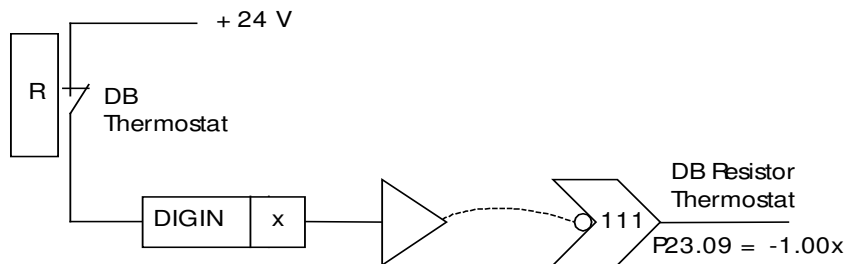

Figure 6-33. – DB Thermostat Protection
For complete protection of DB resistors P23.09 allows the output from the DB resistor thermostat to be patched (via a digital input) as the connection to CF111. Referring to Figure 6-33, when CF111 is set (ON), P23.07 is forced to 0% and disables the dynamic brake. If the thermostat is normally closed, the signal must be inverted.